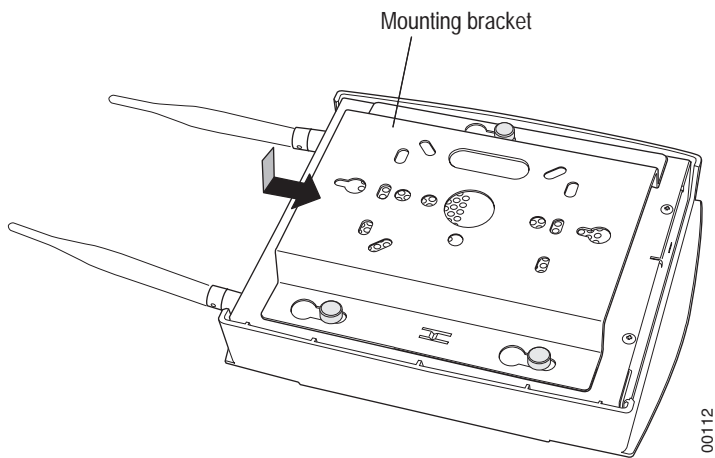

Figure 25: Sliding the AP200 into the Bracket
8. Align the AP200 mounting posts over the circular portion of the keyhole mounts, push the AP in and slide the AP down until it engages with the locking detents (see Figure 25). You should hear it snap in place.
10. Connect the posts of the AP200 to the three keyholes of the mounting bracket and slide into the keyhole (see Figure 25), ensuring the locking detent is engaged. You will hear a click.